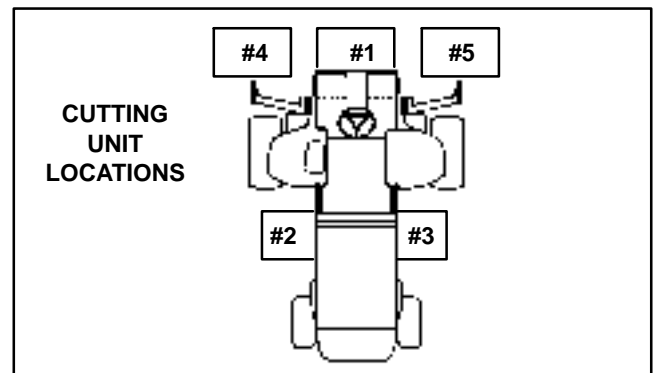

Figure 39
A. For pump section (P1), mow manifold relief is tested at the forward direction supply hose (front hose) to the cutting unit #4 motor (Fig. 39).
B. For pump section (P2), mow manifold relief is tested at the forward direction supply hose (front hose) to the cutting unit #2 motor (Fig. 39).